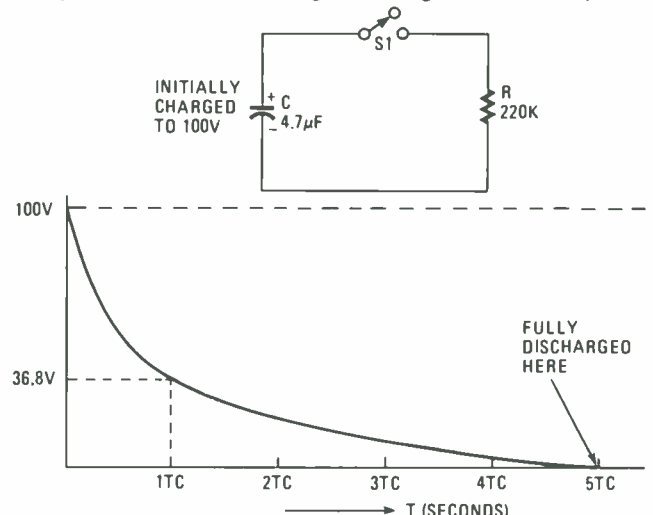

Fig. 21—A discharging capacitor requires five time-constants for its stored charge to fall to zero.
60. (50) Time constant also applies to discharging. It takes one time constant for a previously charged capacitor to discharge to 36.8% of the original charge. Refer to Fig. 21.
It takes five time constants for the capacitor to fully discharge to zero. See Fig. 21. *In the example above, the capacitor will take _____ seconds to fully discharge.*